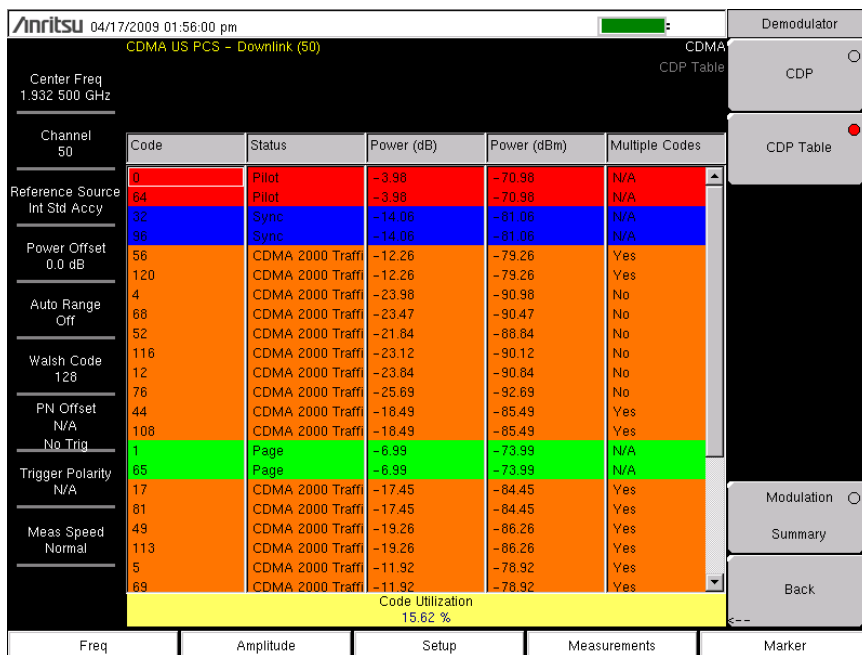

Figure 2-7. Demodulator, CDP Table
6. Press the CDP Table submenu key to display the measurements (Figure 2-7).